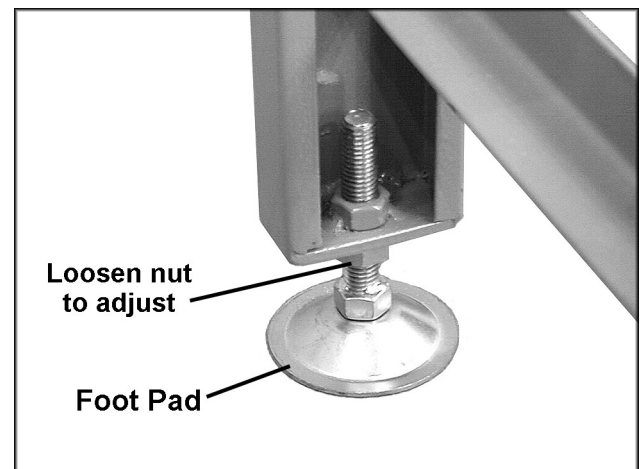

FIGURE 12
3. Screw an adjustable foot pad into each leg as shown in Figure 12.
3. Level the roller table by loosening the hex nut on the foot pad and screw the foot pad in or out. (see Fig. 12).